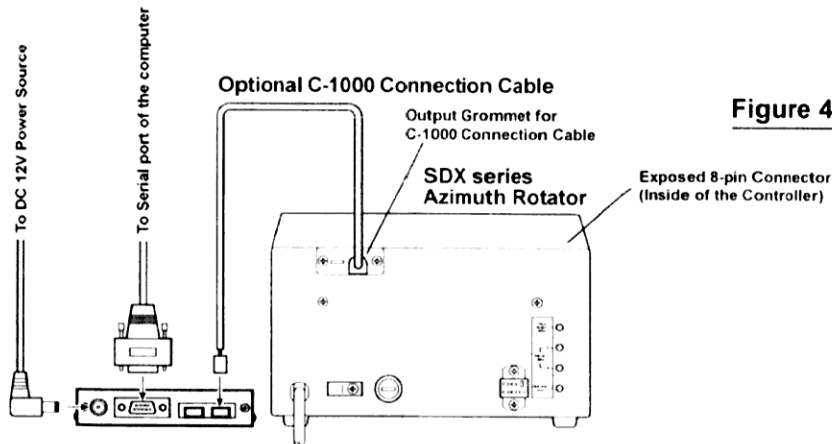

Figure 4
- ❑ Route the 5-pin connector of the **C-1000** Connection cable through out the rubber grommet on the rear panel of the controller, and connect it to the **AZ** connector on the rear panel of the **GS-232B** (Figure 4).